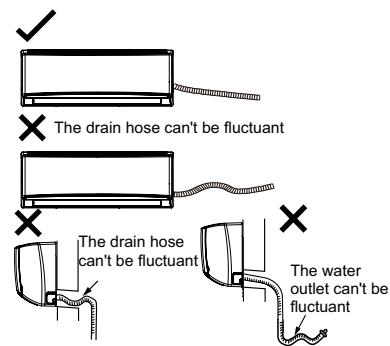

Fig.26
(2) Slant the drain hose slightly downwards. The drain hose can't be curved, raised and fluctuant, etc. (As show in Fig.26)